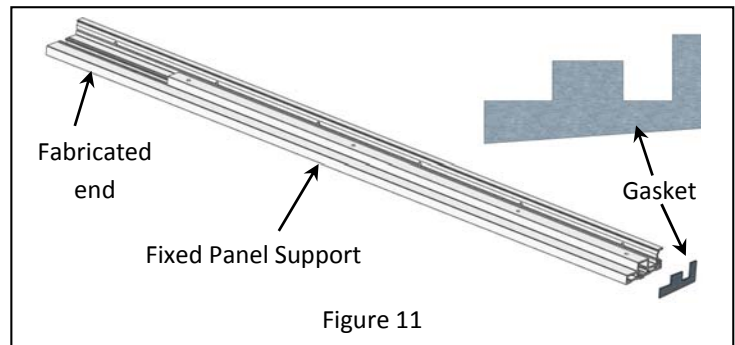

Figure 11
- 9) Peel the backing from the foam gasket for the Fixed Panel Support and carefully apply the gasket to the end of the Panel Support that is NOT FABRICATED as shown (Fig. 11). Be sure that the gasket aligns with the contour of the end of the part.